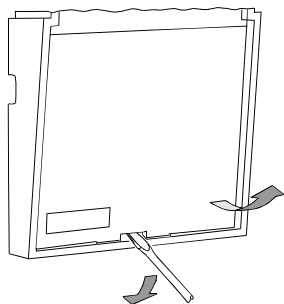

Figure 2. Opening the Front Cover
- Open the front cover by gently inserting a quarter-inch screwdriver in the slot at the bottom of the unit. Apply a downward pressure on the screwdriver handle until the cover swings outward and removes easily (Figure 2).